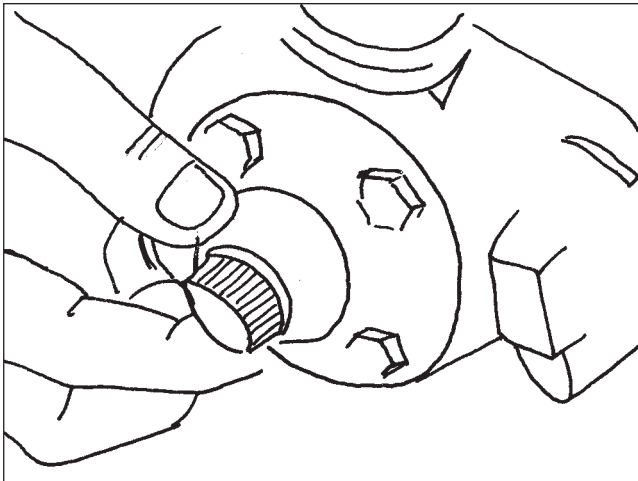

Figure 18
5. Install the rubber boot on the input shaft (Figure 18).